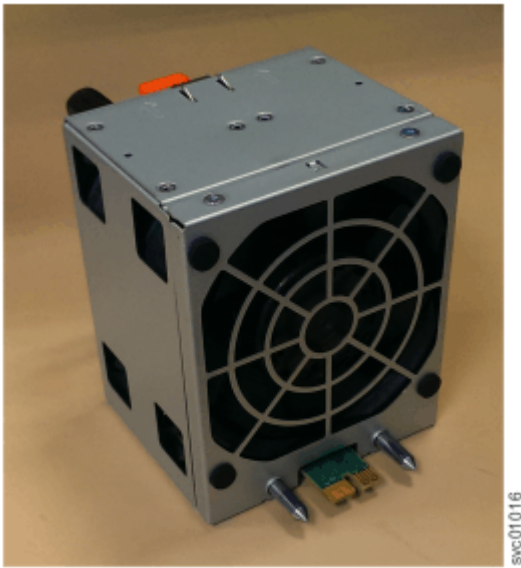

Figure 146. Fan module orientation
5. Hold the fan module with the release tab on top and the connector pin on the bottom, as shown in Figure 146 on page 179.